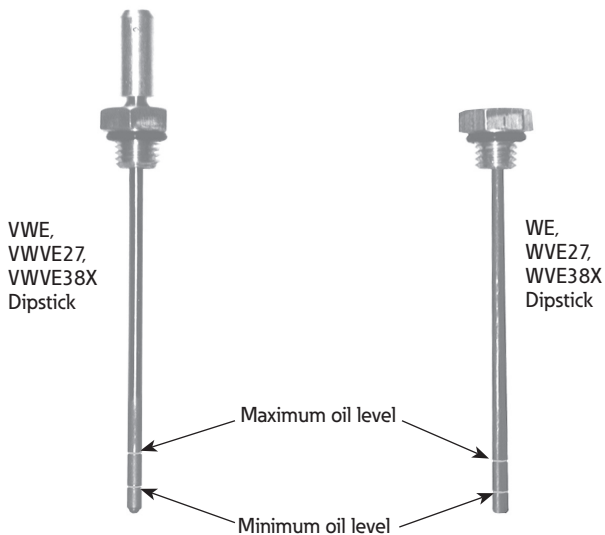

Figure 4. W-Group oil dipsticks.
1. Check the oil level before putting the recloser into service. Using the dipstick provided on the recloser head, make sure the oil in the recloser tank is at the proper level (Figure 4). If the oil is below the minimum level, fill the recloser with oil to the proper level using the dipstick hole. Do not exceed the maximum oil level, as indicated by the dipstick.